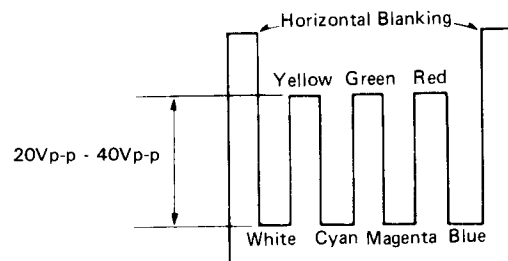

Fig. 4
- (1) Feed in a standard color bar signal and set the AUTO COLOR switch to the ON position.
- (2) Set the COLOR VR and TINT VR and B LEVEL VR to their center positions. Set the PICTURE VR to its minimum position.
- (3) Connect an oscilloscope between the "BK" terminal on the VIDEO-CRT PWB and ground. Set the oscilloscope to 5V/div.
- (4) Adjust the SUB COLOR VR (VR702H) and SUB TINT VR (VR702F) to obtain the waveform on the oscilloscope shown in Fig. 4.